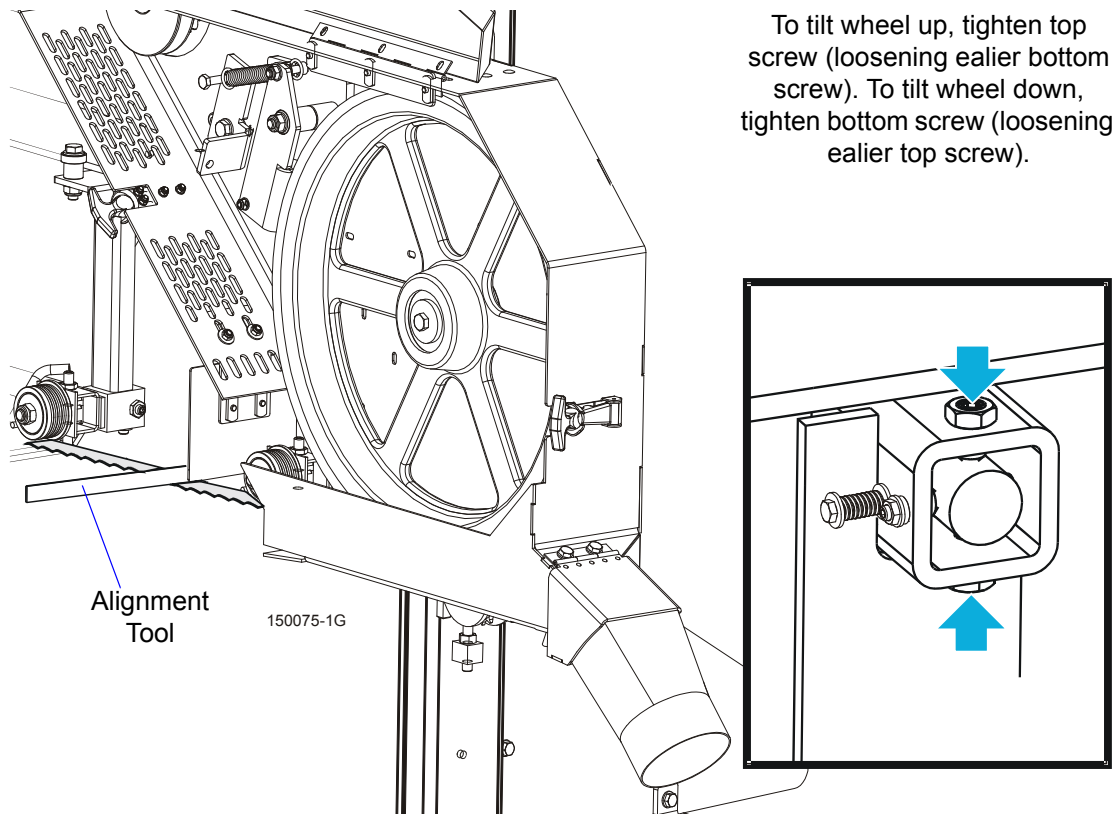

FIG. 3-6
- Remove the tool from the blade and reattach it near the inner blade guide. Measure from the tool to the bed rail at both ends of the tool. If the measurements at the front and rear ends of the tool differ by more than 1/16" (1.5 mm), adjust the vertical tilt of the drive-side blade wheel. See Figure 3-6.
See Figure 3-6. To tilt the drive-side blade wheel down, loosen the top adjustment screw, loosen the nut on the bottom adjustment screw and tighten the bottom screw. Tighten the top and bottom nuts.